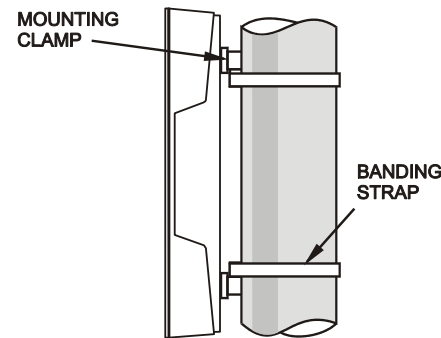

Figure 12 – Pole mounting
2. Attach the pole mounting clamp assemblies to the rear enclosure using the M6 x 25 screws provided - see Figure 12 – Pole mounting.